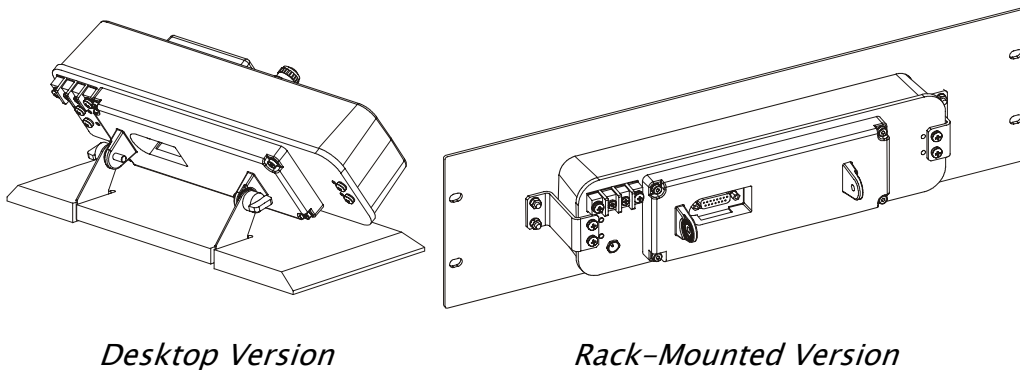

Figure 5. 6-Wire Control Head Versions
- 6-Wire Control Head. This item can be ordered for desktop use, or mounted in a 19" rack (see Figure 5)
The two versions are illustrated in Figure 5.